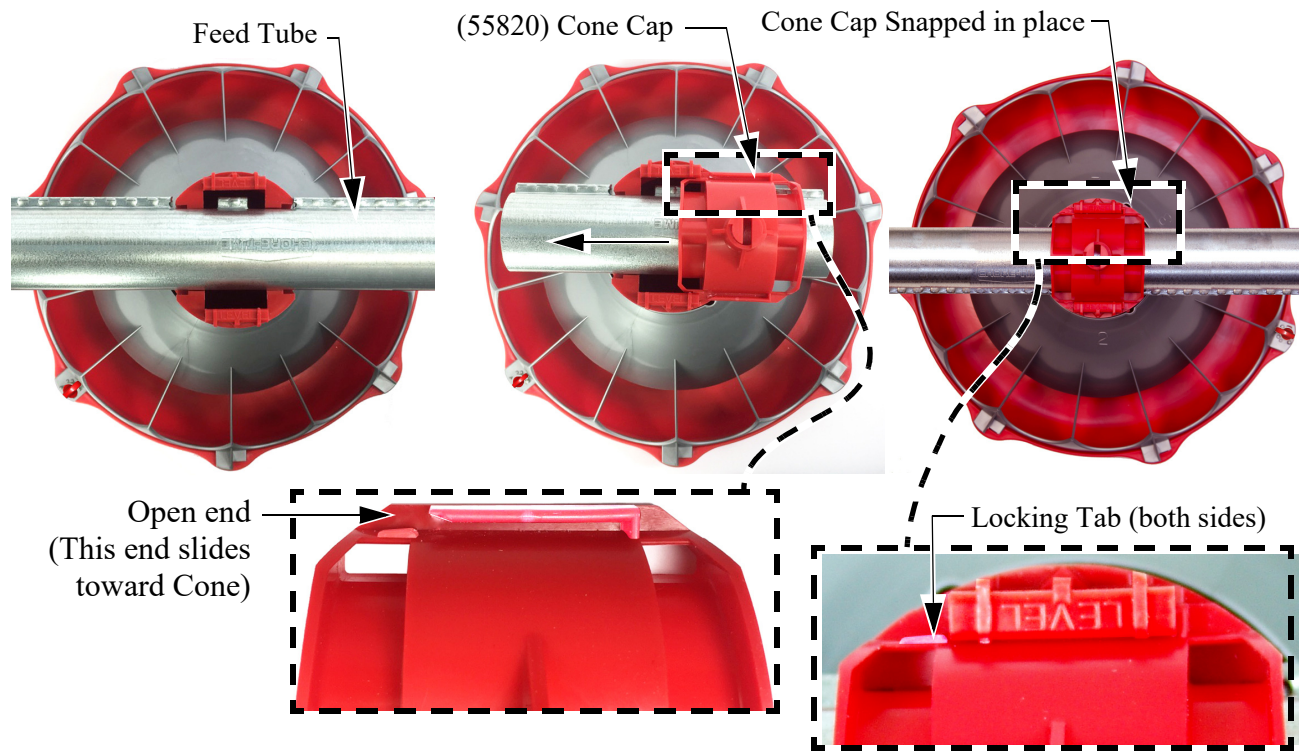

Figure 21.Cone Cap
3. Install a Feed Cone Cap as shown in **Figure 21**.